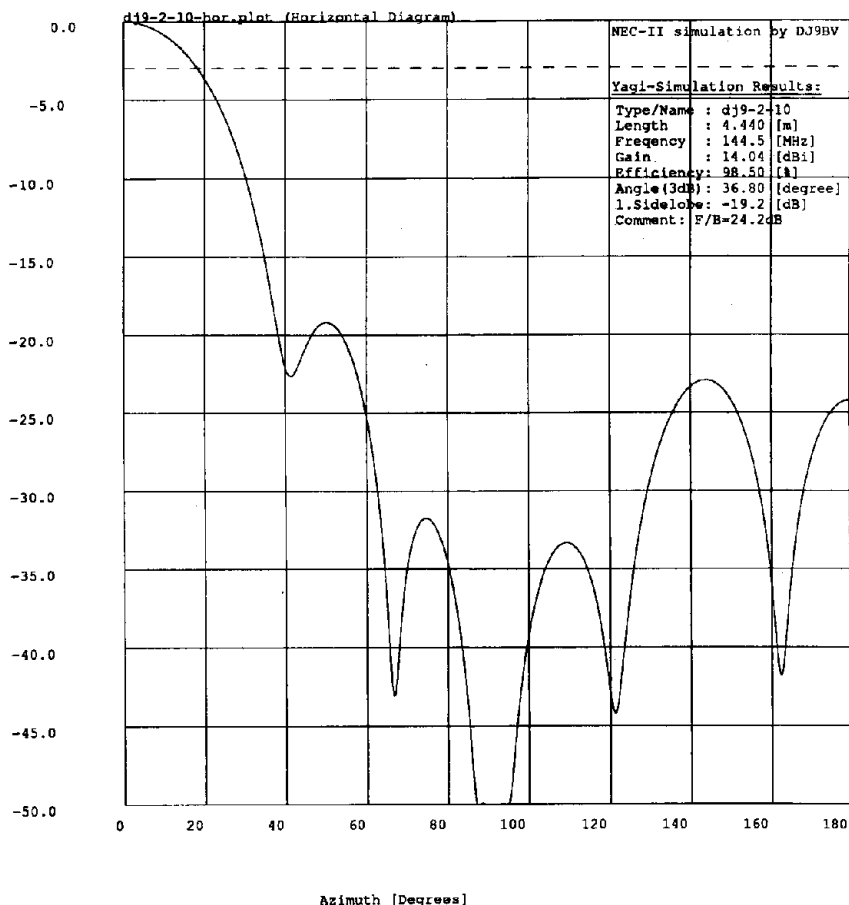

Bild 5/Figure 5 : Horizontal Diagramm/Pattern DJ9-2-2.1
- Pattern with low sidelobes. See figures 5 to 9.
The NEC-II simulation software ([2]) has been used to fine tune the dimensions for even higher gain and lower sidelobes, especially for the back lobe level. The results justify this approach. Gain is better than any commercial antenna on the market (see figure 1) and patterns are superiour (See figures 5 - 9). So the home builder can take advantage of this design and will be able to construct one of the finest antenna systems possible.